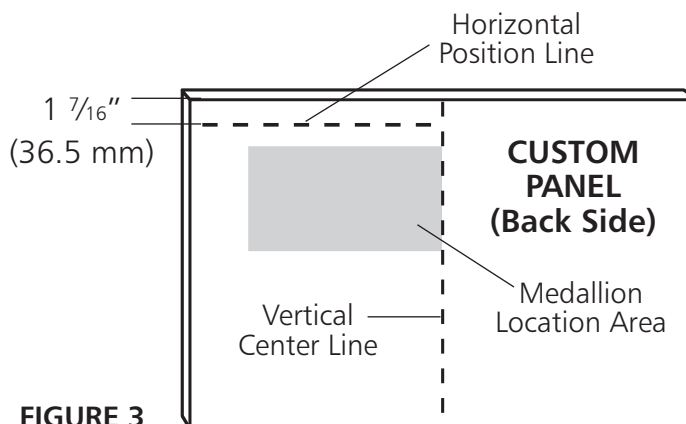

FIGURE 3
- On the backside of the custom door panel, measure and mark the vertical center line and horizontal position line (See figure 3).